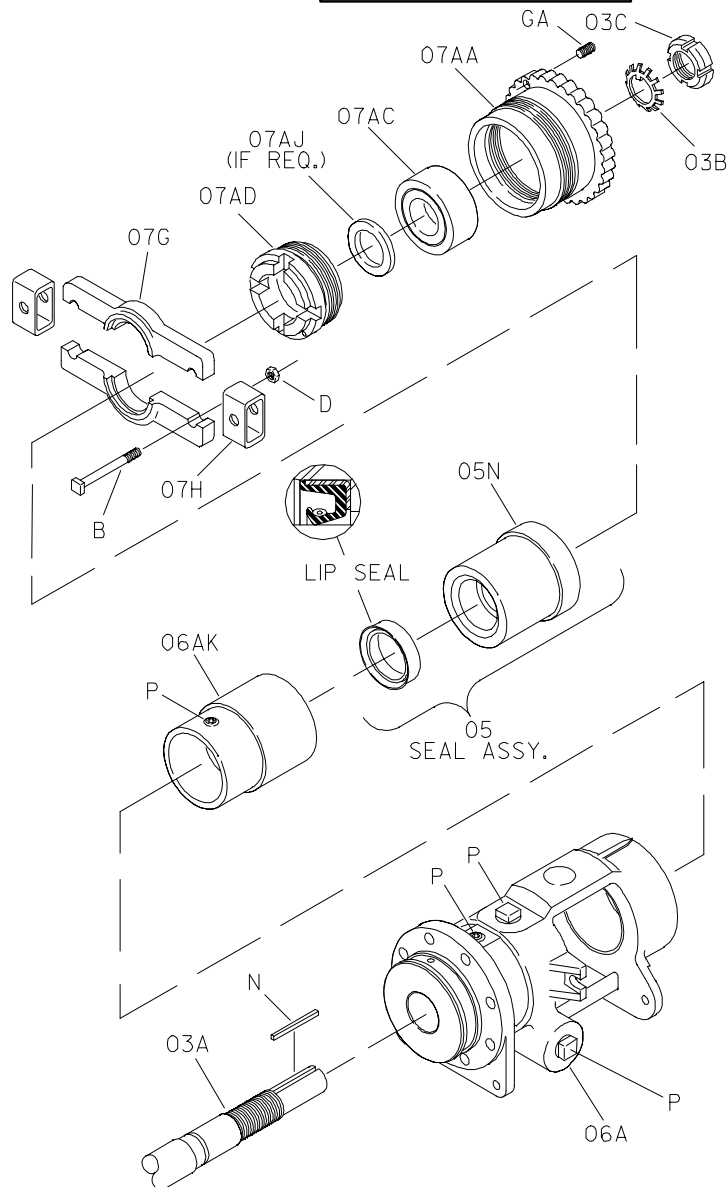

Figure F-5. 65C Optional Lip Seal
Position the seal gland (06I) on a flat surface with the drive end up. Press the lip seal (05) into the seal gland with the lip positioned as shown in Figure F-5.